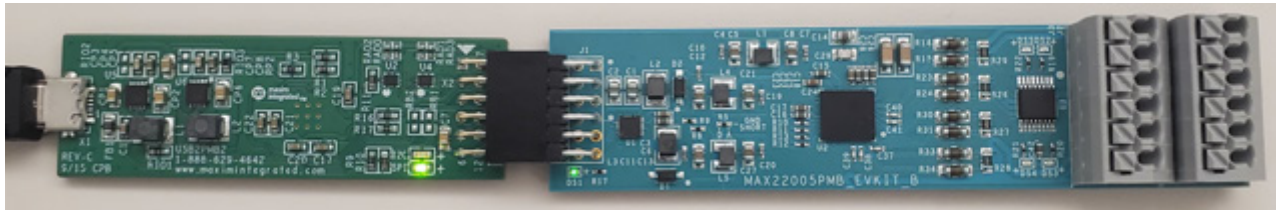

Figure 2. USB2PMB2# and MAX22005PMB# Connection
- 5) Connect USB2PMB2# connector X2 to MAX22005PMB# connector J1 as shown in Figure 2.
- 7) The MAX22005PMB# is powered by USB through the USB2PMB2#. Confirm that the green DS1 LED (power indicator) is on. The USB2PMB2# green SPI LED should also be on. These are visible in Figure 2.